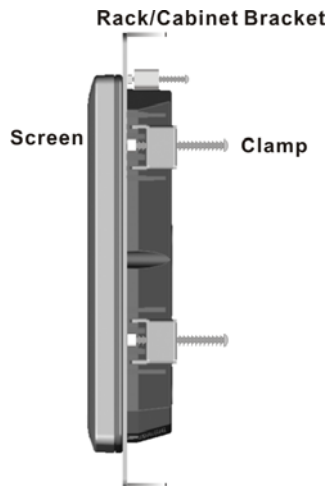

Figure 4-16: Secure the Rack/Cabinet Bracket
Step 3: Tighten the screws that pass through the rack mounting clamps until the plastic caps at the front of all the screws are firmly secured to the bracket (**Figure 4-16**).